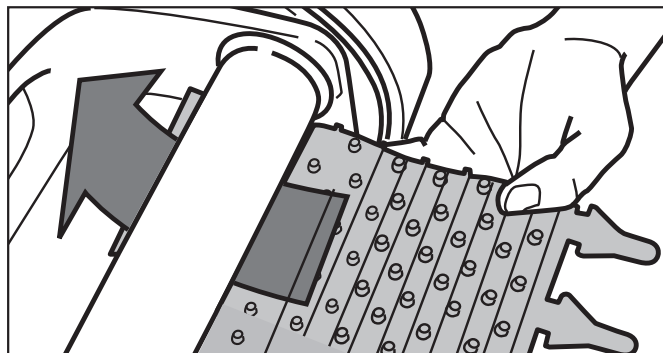

Figure 20. Position the New Brush on Roller
2. Position the new brush underneath the roller with the spikes facing downwards (Figure 20).